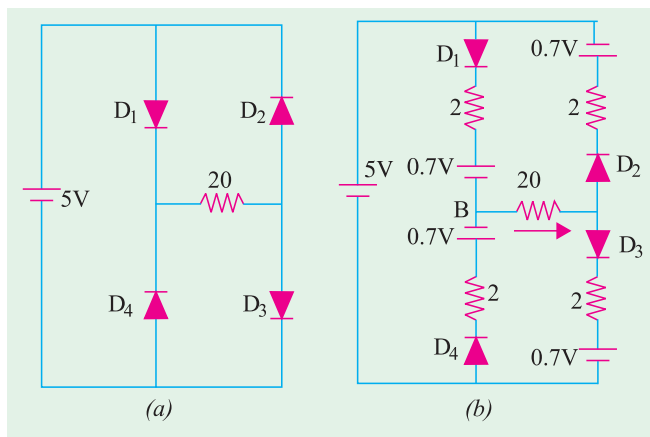

Fig. 52.6
**Example 52.5.** Find the current through the 20 Ω resistor shown in Fig. 52.6 (a). Each silicon diode has a barrier potential of 0.7 V and a dynamic resistance of 2 Ω. Use the diode equivalent circuit technique.
**Solution.** In Fig. 52.6 (b) each diode has been replaced by its equivalent circuit. It is seen that diodes  $D_1$  and  $D_3$  are forward-biased by 5 V battery whereas  $D_2$  and  $D_4$  are reverse-biased. Hence, the current will flow from point A to B, then to C via 20 Ω resistance and then back to the negative terminal of the 5 V battery.